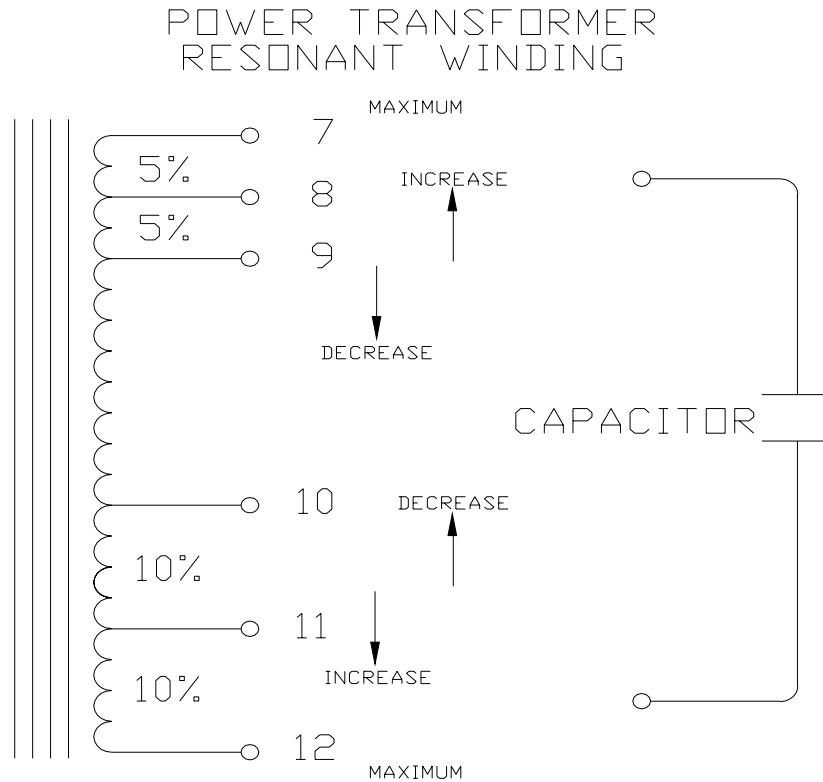

FIGURE 8K
Figure 8K is a schematic representation of the Ferroresonant Transformer Resonant Winding Taps and the Resonant Capacitor. There are six Resonant Winding Taps numbered 7 through 12. By connecting the Resonant Capacitor to taps 7 and 12, the charger will be set for maximum output current. The Resonant Winding can then be reduced in 5% increments down to a maximum reduction of 30%.
- 4) Use FIGURE 8K to determine which of the taps are to be connected for an increase or decrease in the charging current rate. Adjustments should be made in 5% increments.